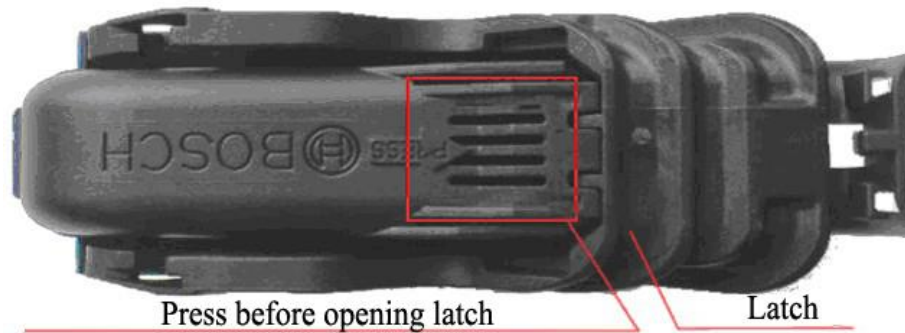

Fig. 7.72.
- press on the block cover surface shown in Fig. 7.72;